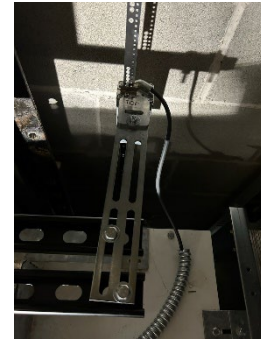

Figure 29: Sensor Mounting Plate Crosshead Installation
15. Install the Sensor Mounting Plate to the crosshead on top of the car, using the supplied unistruts, washers and screws. Make sure to align the sensor mounting plate with the tape as much as possible. See Figure 29